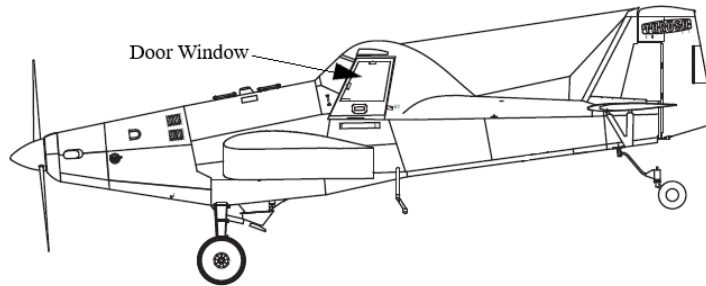

Figure 2: Single Cockpit Door Window
1. Locate left hand door as shown in Figure 2.